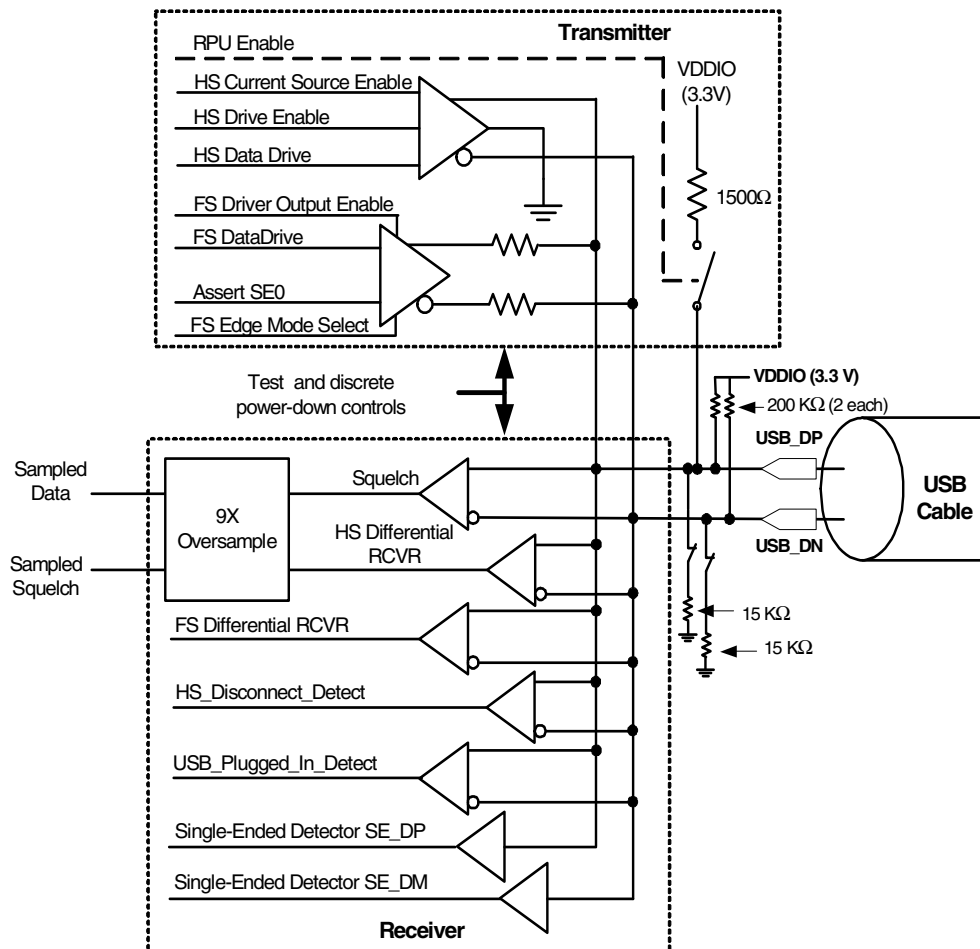

Figure 9-2. USB 2.0 PHY Analog Transceiver Block Diagram
- The analog transceiver section comprises an analog receiver and an analog transmitter, as shown in Figure 9-2.
The analog receiver comprises five differential receivers, two single-ended receivers, and a 9X, 480-MHz HS data sampling module, as shown in Figure 9-2 and described further in this section.
The analog transmitter comprises two differential drivers: one for high-speed signaling and one for full-speed signaling. It also contains the switchable 1.5K $\Omega$  pullup resistor. See Figure 9-2.